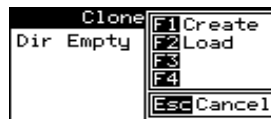

Figure 16.2 – Clone Unit Menu before Cloning
**NOTE:** In the above Figure 16.2, F3 and F4 are inactive in the clone Unit.